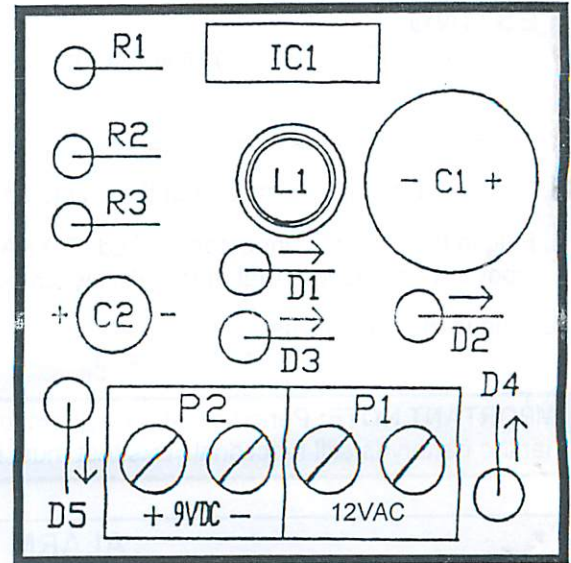

FIG. 1
3. Connect one end of the 2 conductor cable to the AC9 terminal strip marked "+ 9VDC -" (see figure 1). Note which wire is positive and which is negative.
6. Connect one end of another 2 conductor 22 AWG cable to the AC9 terminal strip marked 12VAC (see figure 1) and the other end to the 12VAC 20VA transformer provided. (Max length 10').
7. Install the AC9 cover using the three (3) screws #6 X 3/8" provided.